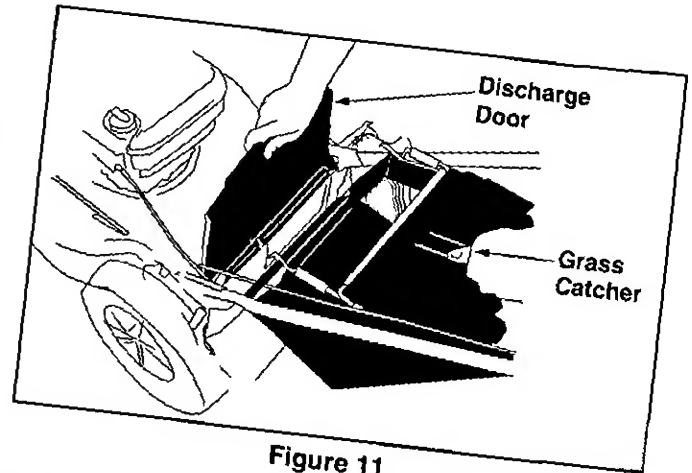

Figure 11
- Holding open the rear discharge door, place the grass catcher on the pivot rod. Let go of discharge door so that it rests on the grass catcher. See Figure 11.